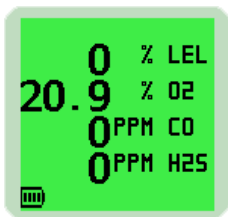

Fig. 2-18 Normal Operating Display
- 1) Start from the normal operating display, as shown in Fig. 2-18. Press the Right Hand (RH) button  once to switch the instrument backlight ON.